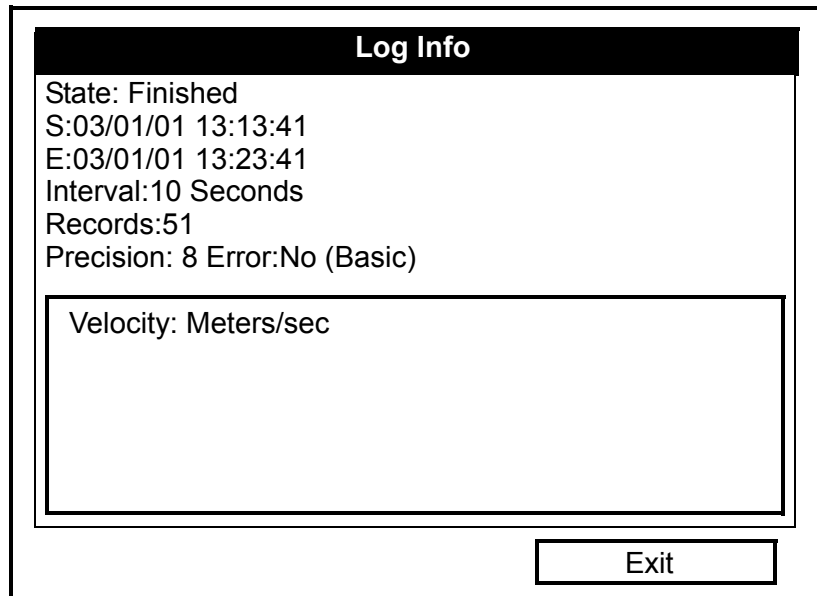

Figure 5-11: The Log Info Window
4. In the *View* menu, scroll to the *Details* option and press [ENTER]. A window similar to Figure 5-11 below opens.